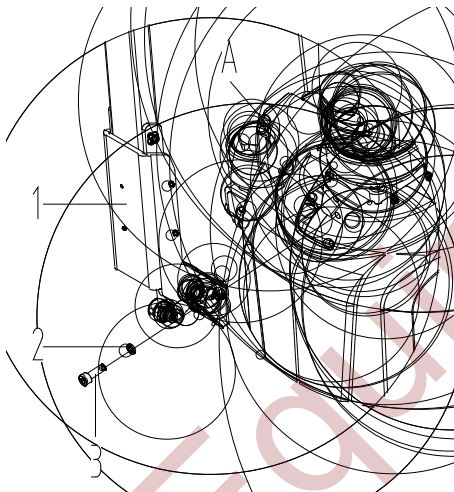

Figure 2
- ☐ As shown in Figure 2, take out the handle assembly 1, align it with the installation position A, and fix it reliably with screws 3 and washers 2.